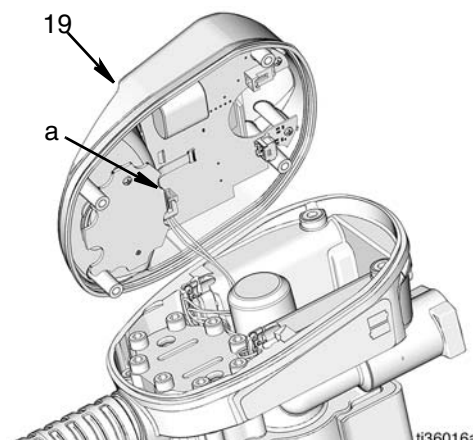

FIG. 31
4. Disconnect the black and red power connection (a) (FIG. 31).